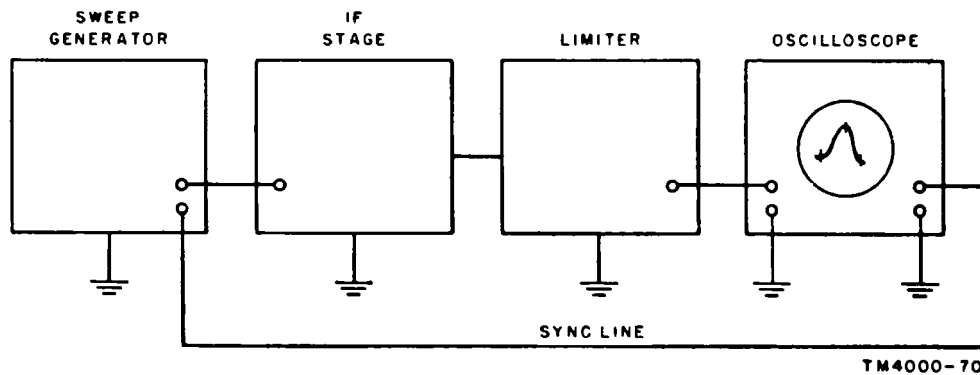

Figure 83. Connections for visual alignment of IF stages.
a. A cathode-ray oscilloscope and sweep generator can be used when alining the IF stages of an fm receiver and better results can be obtained than with a meter and am signal generator. With this method, the actual tuned-circuit response curves are traced out on the oscilloscope screen. The curve shown on the oscilloscope in figure 83 is typical. The peak of the curve must be exactly at the resting frequency.
- (1) To insure that the peak is at the resting frequency and that the band-pass characteristics are correct, marker signals must be used. Marker signals, properly injected into the circuit being alined, will produce pips at points on the response curve corresponding to the frequencies of the marker signals.
- (2) Any signal generator that is accurately calibrated and that can be tuned to produce an unmodulated signal at the desired marker frequency may be used as a marker generator. Some special generators can supply several marker signals simultaneously.
- (3) To obtain the three pips as shown in figure 83, it is necessary to inject marker signals at frequencies corresponding to the center, upper limit, and lower limit of the IF pass band.
- (4) Unless the band-pass characteristics are very critical, one marker signal at the center frequency is usually sufficient.
b. To aline IF stages by this method, connect the vertical terminals of the oscilloscope across the grid resistor in the limiter stage. Connect the sweep generator to the grid of the last IF stage. Figure 83 shows the block diagram connections.
- (1) When alining fm receivers that use ratio detectors, connect the fm signal generator to the grid of the last IF stage. Connect the audio output of the ratio detector to the vertical input of the oscilloscope. Proper alinement is indicated by the previously mentioned S curve, the same as for the discriminator, but there the similarity ends. If the secondary of the detector input transformer is detuned, the S curve will become the familiar bell curve (fig. 83).
- (2) Start the alinement by detuning the secondary of the detector input transformer. This should result in a bell-shaped curve on the oscilloscope. Tune the primary for maximum amplitude of the bell curve.
- (3) Aline the remaining IF stages, one at a time, moving towards the mixer. Then adjust the secondary of the detector transformer for the S curve. A marker signal, injected with the IF signal, is helpful in centering the S curve.
a. The visual method can be used to aline the RF, mixer, and oscillator stages of an fm receiver. Connect the vertical input of the oscilloscope across the limiter grid resistor and the sweep generator output to the antenna terminals of the receiver. The test setup is the same as that in figure 83 except for the point of sweep generator connection.